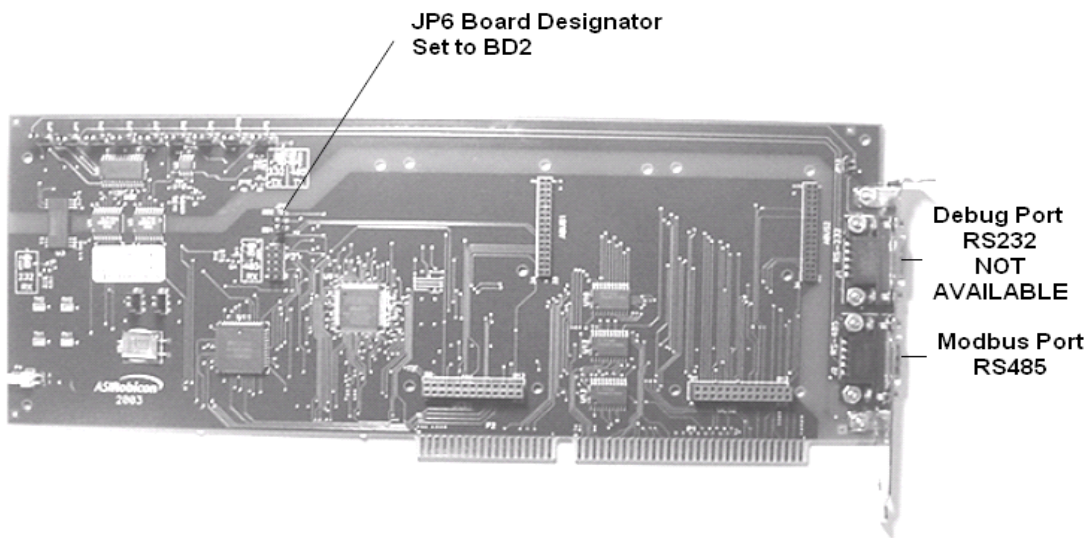

Figure 1-3: Using One Board for Ethernet Modbus™ and Modbus™ Dual Network
1. The user can use one board for the Ethernet Modbus™/Modbus™ dual network if they do not require a debug port. The single board must still be designated as BD2. See Figure 1-3 for the board setup.